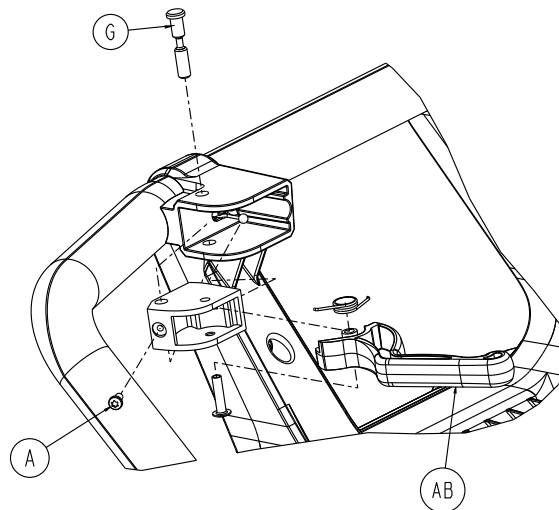

Figure 30 –
22. Using a T20 Torx driver, loosen (do not remove) the pan head tapping screw (A), then remove the manual release pivot pin (G) from the quick-release handle assembly (AB) (Figure 30).